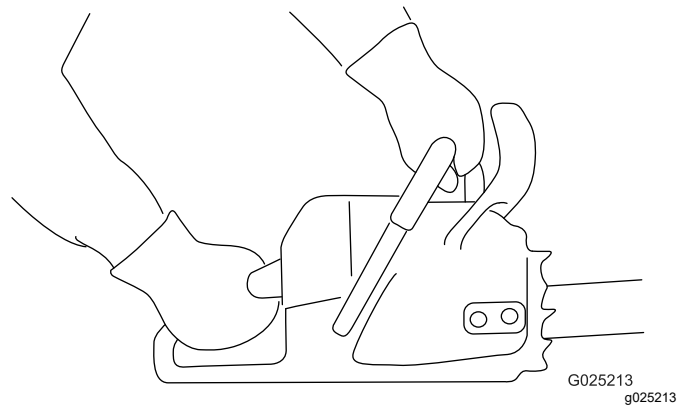

Figure 13
1. Grip the chain saw with 2 hands, with your left hand on the front handle and your right hand on the rear handle as shown in Figure 13.
1. Grip the chain saw as shown in Figure 13.
3. Grip the chain saw as shown in (Figure 13).